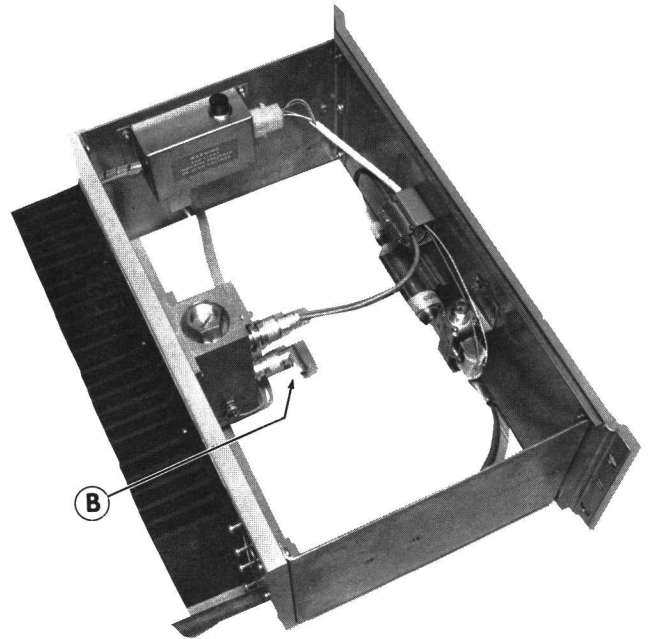

Figure 4 - Top View of PA Assembly
2. Remove the driver output cable (B) at the PA assembly. See Figure 4.